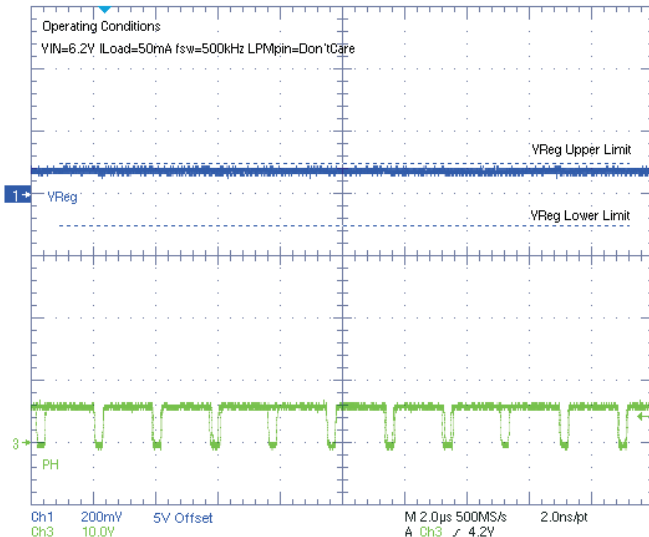
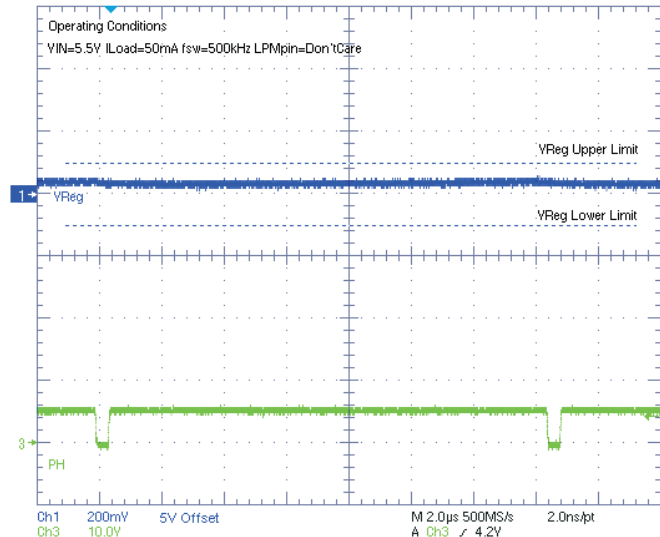

Figure 17. Active Mode CCM
Figure 18. PSM at Low VIN
- At low input voltages when V_{Reg} starts losing regulation and the OFF time (t_{OFF}) of the switching FET tends to be close to or slightly less than the minimum OFF time ($t_{OFF-Min}$). If OFF time is much smaller than $t_{OFF-Min}$, there is a risk that the part stops switching and regulation is lost until power is re-cycled with OFF time greater than $t_{OFF-Min}$. This mode of operation is shown in Figure 18. Comparing Figure 17 and Figure 18, pulse skipping occurs in Figure 18 but not in Figure 17 under similar output loading conditions.